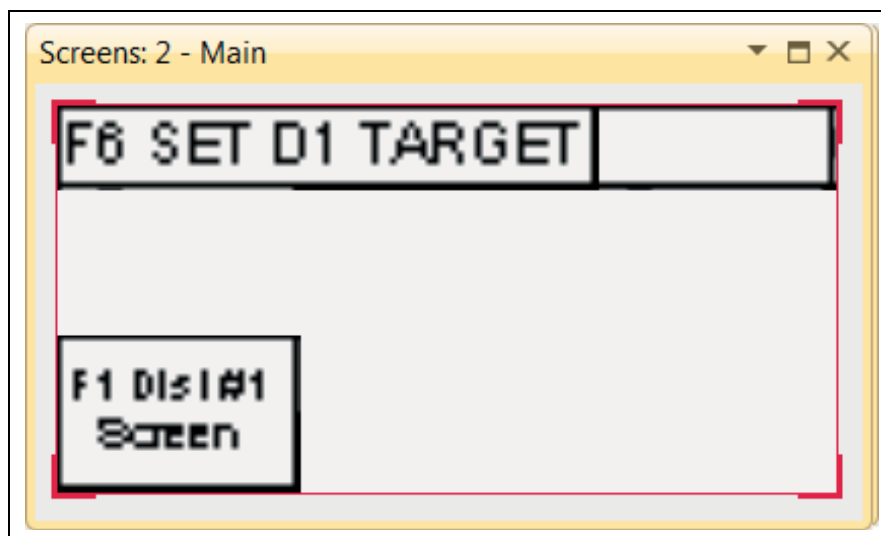

Figure 5B
2. Press **F1**. The following screen will appear as in Figure 5B. There are two (2) options. In normal operation, press **F6** and then enter the spout location. The other option is to press **F1** to go to the distributor setup screen.